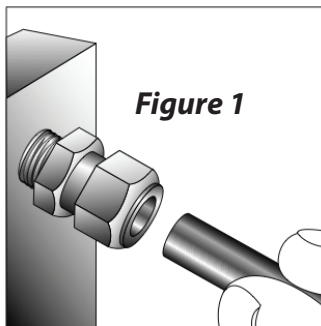

Figure 1
3. Make absolutely sure the tubing is bottomed out in each fitting before tightening. See Figures 1 and 2. **ALWAYS** use two wrenches to tighten fittings: One on the tubing nut, one on the fitting being tightened. Tighten nut 1-1/4 turns past finger tight. See Figure 3.